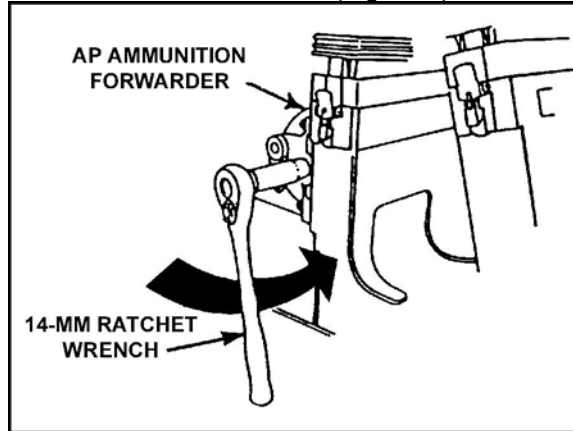

Figure 6. AP ammunition forwarder.
- b. Use the 14-mm ratchet wrench and forward the AP ammunition up the feed chute until the upper clutch override knob starts to come out (Figure 6).